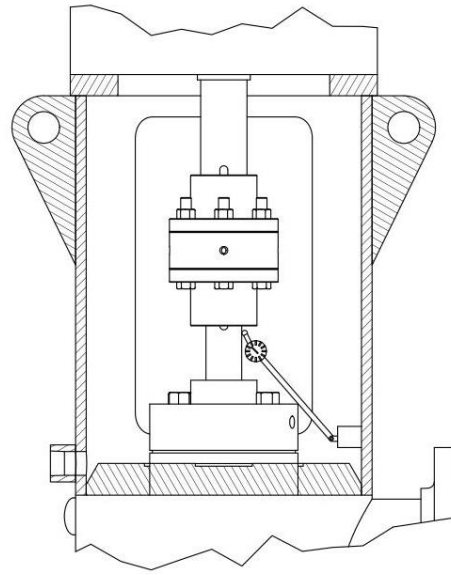

Figure 4-8 – Pump Shaft Runout
12. With the driver coupling installed and appropriately adjusted, place the dial indicator as shown in figure 4-8